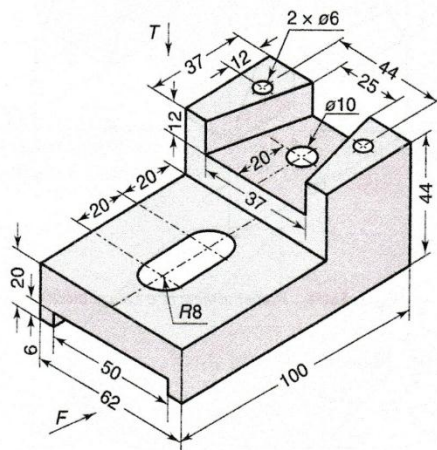

Fig. 5.47 (i) Isometric view of a typical machine base
**Solution** Refer Fig. 5.47 (ii)